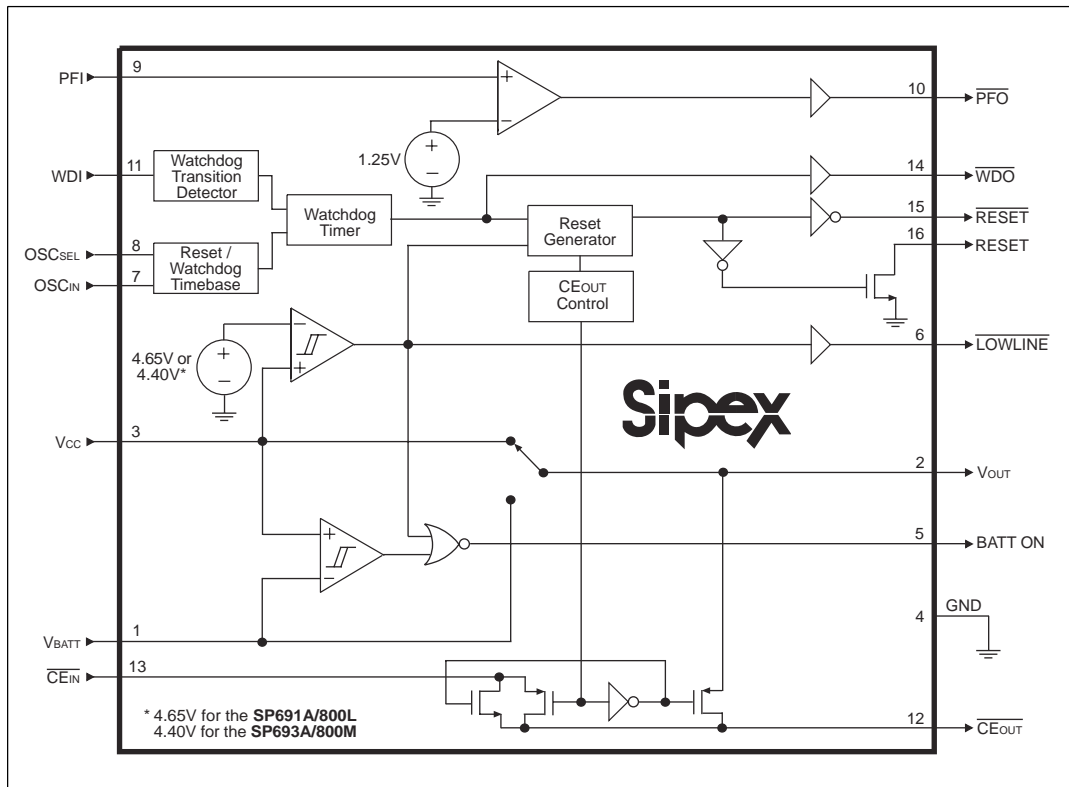

Figure 16. Internal Block Diagram of the SP691A/693A/800L/800M
The **SP691A/693A/800L/800M** devices provide internal gating of chip-enable (CE) signals, to prevent erroneous data from corrupting the CMOS RAM in the event of a power failure. During normal operation, the CE gate is enabled and passes all CE transitions. When reset is asserted, this path becomes disabled, preventing erroneous data from corrupting the CMOS RAM. The **SP691A/693A/800L/800M** devices use a series transmission gate from CE_{IN} to CE_{OUT}. Refer to *Figure 16*.
LOWLINE is the buffered output pin of the reset threshold comparator. Refer to Figure 16. LOWLINE typically sinks 3.2mA at 0.1V. For normal operation where V_{CC} is above the reset threshold, LOWLINE is pulled to V_{OUT} .